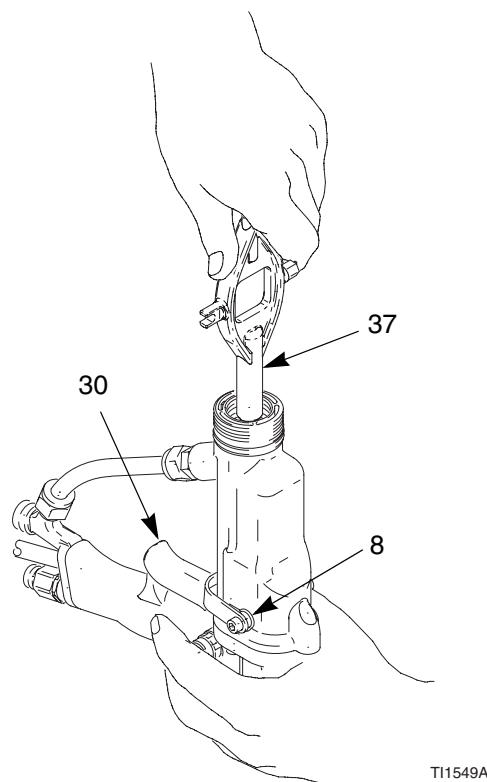

Fig. 13. Fluid Packing Removal
4. Loosen the trigger screws (8) and trigger (30). See FIG. 13..
5. Remove the packing rod (26), using the multi-tool (37).